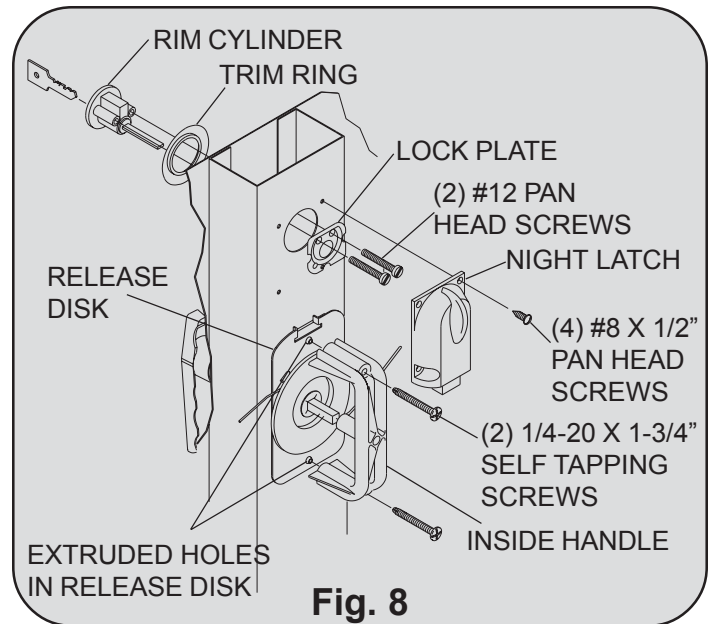

Fig. 8
Place the inside handle over the extruded holes in the release disk (see Fig.8). Secure the handle with (2) 1/4-20 x 1-3/4" self tapping screws. Insert the rim cylinder through the trim ring and into the section with the teeth side of the key pointing away from the outside handle.